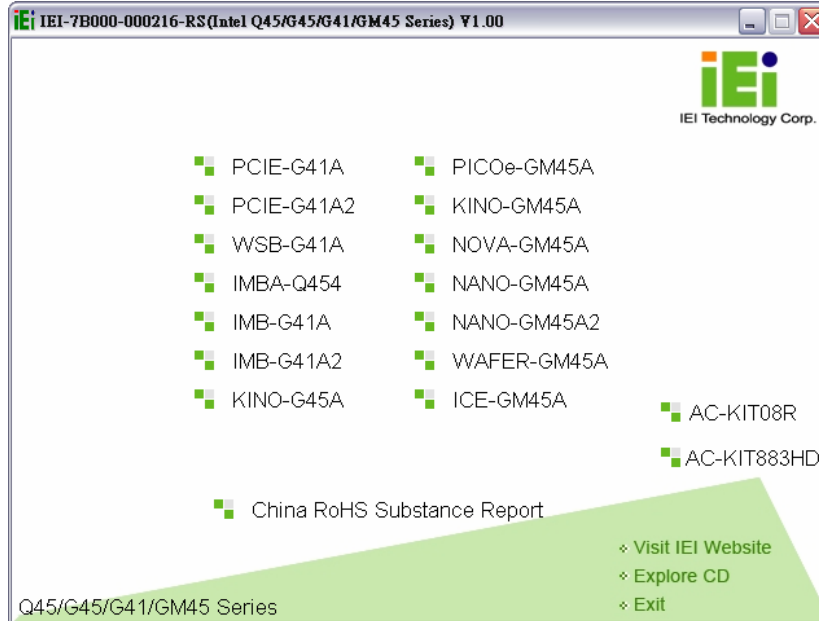

Figure 4-16: Introduction Screen
Step 2: The driver main menu appears (**Figure 4-16**).